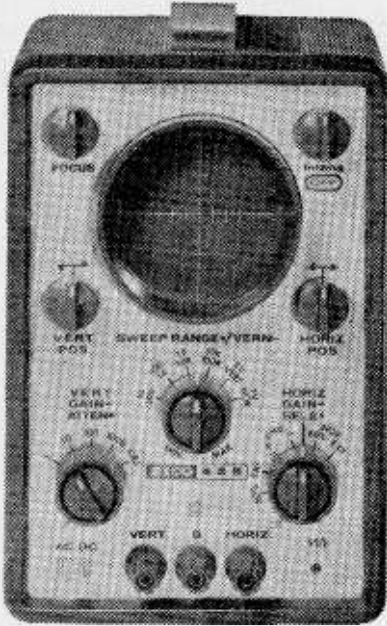

Fig. 12. The EICO 435 oscilloscope, made from a kit, is typical of many models available at moderate prices.
An *oscilloscope*, on the other hand, is an electronic device capable of high speed operation. A typical oscilloscope is shown in Fig. 12. While we have shown direct connections to the deflection plates in Figs. 2 through 9, an oscilloscope employs amplifiers as shown in Fig. 13, and fairly complex sweep circuits.
**What's up front.** The scope (abbreviation for oscilloscope) shown in Fig. 12 has several front panel adjustments. The focus (sharpness of dot) is adjusted with the upper left hand knob, and the brightness of the dot with the upper right hand knob. The vertical position of the dot may be adjusted with the knob at the left near the bottom of the screen, and its horizontal position with the knob on the opposite side.
be set and still be able to discern the waveform depends upon the frequency response characteristics of the scope. Using the scope shown in Fig. 12, it was possible to observe and lock in signals up to 12 mc. Although this scope has a rated frequency response of